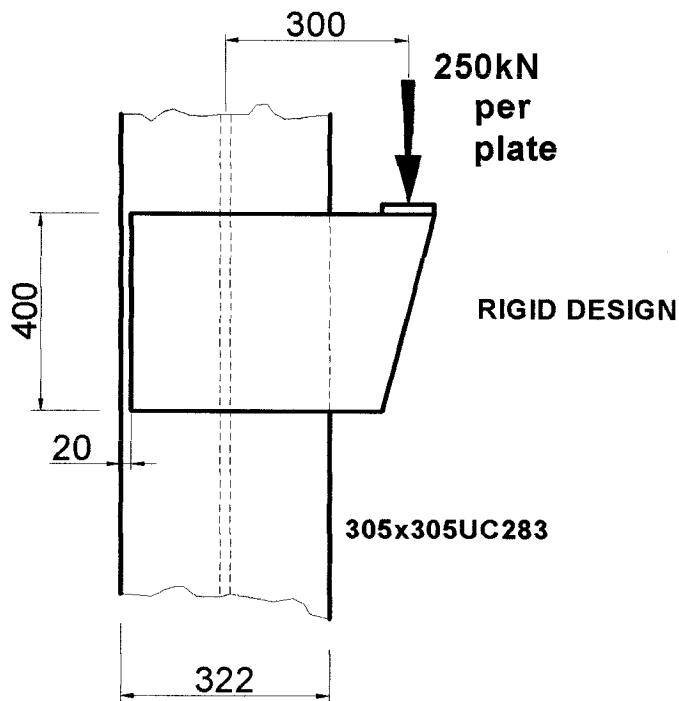

Figure Q3
3. Figure Q3 shows the near side of a typical two-plate support bracket.